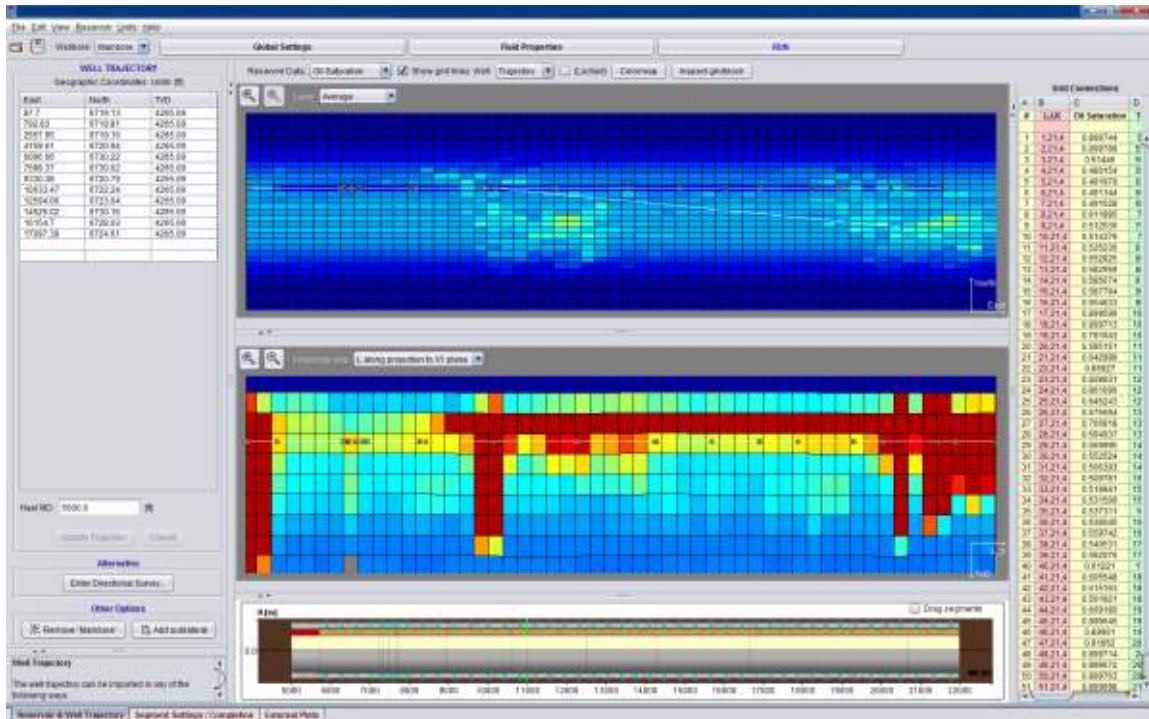

Figure 5. Example of Well View w/Reservoir Grid
- This view is displayed when the Reservoir & Well tab is selected in the bottom left corner. An example is given in **Figure 5**. The view visualizes well and reservoir data, and facilitate entry of well paths and well segmentation: